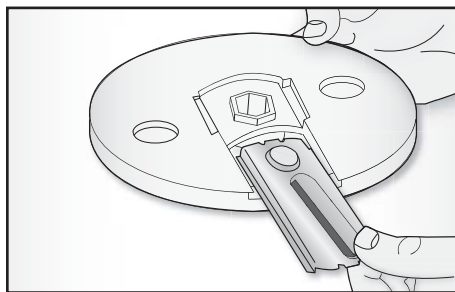

Fig. 7
Insert the desired blade, slicing blade (M), julienne cutting blade (L) or stick cutting blade (N) on the blade holder disc (I) so that the hole on the blade is at the middle of the disc (Fig 7).